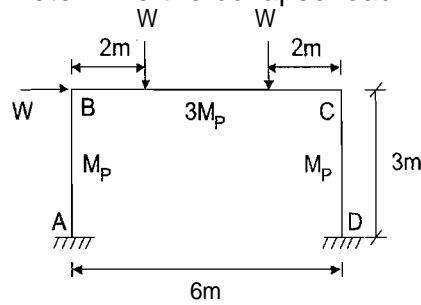

Fig. 10
- b) Determine the collapse load W_c for the frame shown in fig. 10. 14